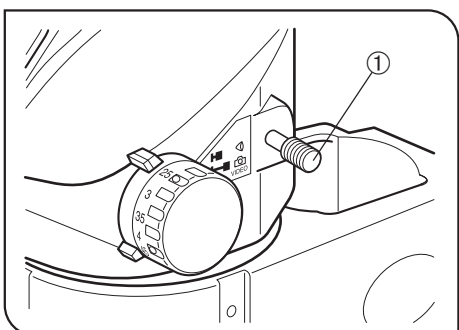

Fig. 11
(Fig. 11)
- ★ Always move the light path selector lever ① until it hits the stop position.
- 1. For observation through the binocular light path, push in the light path selector lever ① till the stop position. (Fig. 11)
- 2. For the TV camera light path, pull out the light path selector lever ① till the stop position. (Fig. 11)